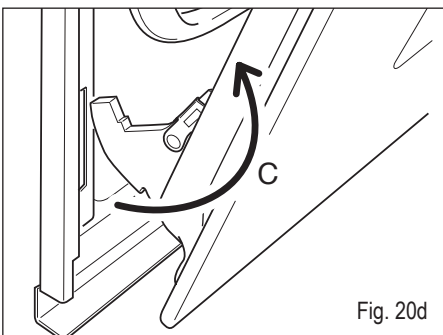

Fig. 20d
- Withdraw the hinge hooks from their location following arrow “C” (fig. 20d).